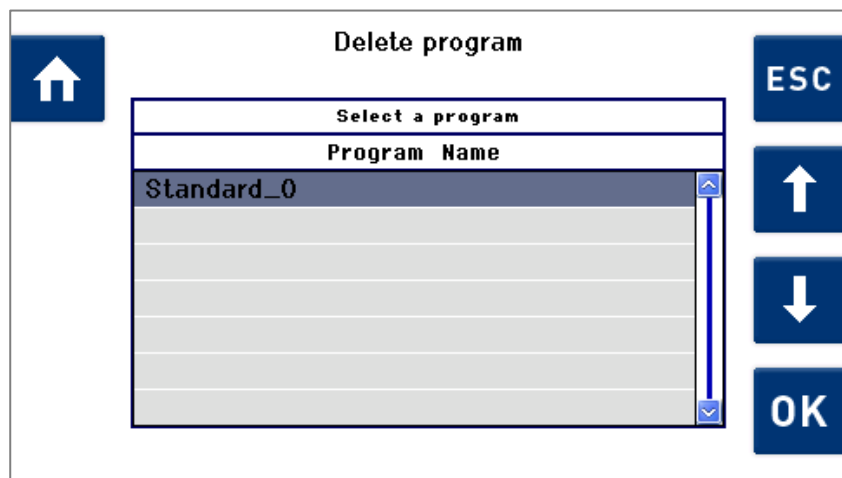

Fig. 7.2.4.1 *Delete Program* display
**Selecting a program for deletion** Use  /  to select the cleaning program for deletion (*Standard\_0* in the example below) (Fig. 7.2.4.1).